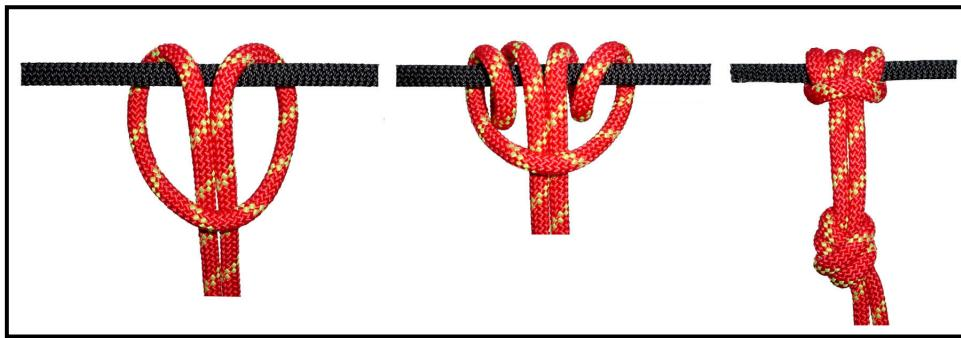

Figure 4-20. Middle-of-the-rope Prusik.
- (1) **Middle-of-the-Rope Prusik.** The middle-of-the-rope Prusik knot can be tied with a short rope to a long rope as follows (Figure 4-20.):